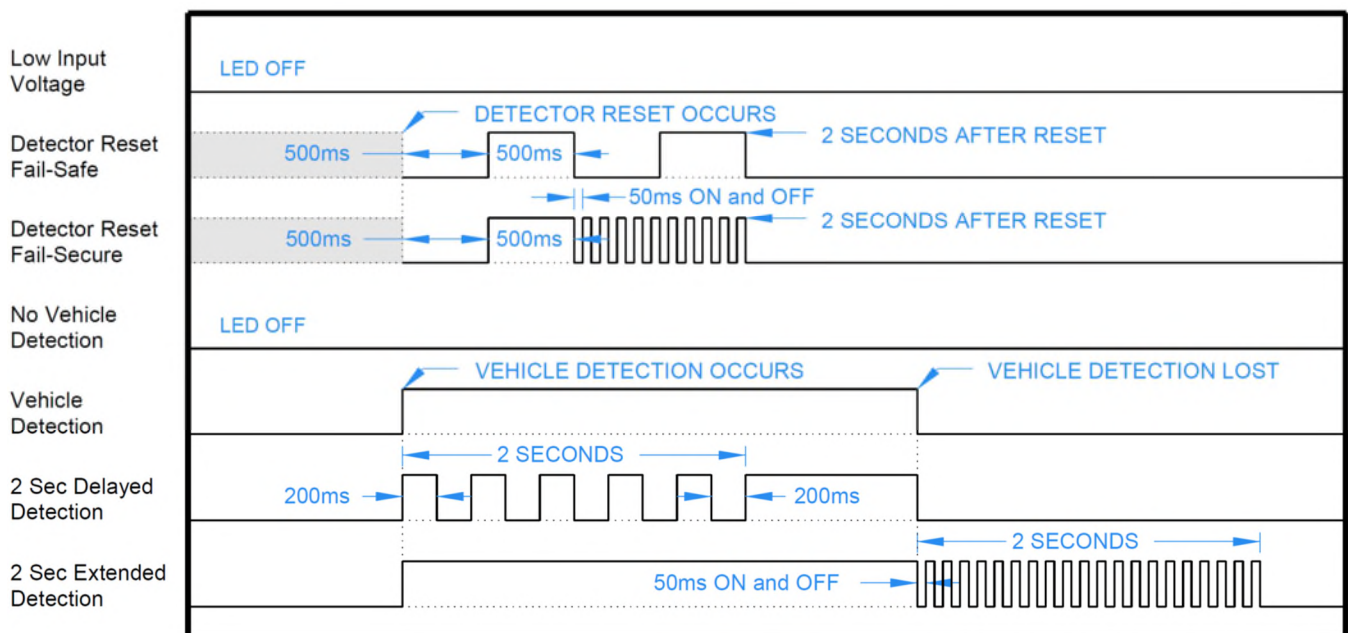

Figure 8: Detect LED States
13. A figure 8 loop can be used in locations where electrical interference is expected or seen. This is a standard loop with an extra saw cut down the middle of the loop. This extra saw cut should point toward the source of the interference as much as practical. If the source is overhead or below ground (power lines) the saw cut should be parallel to the short side of the loop. The loop wire is placed in the saw cuts using a figure 8 motion. A figure 8 loop will have more inductance than a similar sized conventional loop.